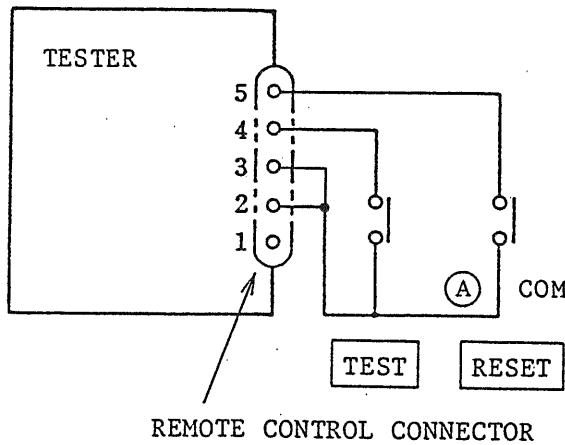

Figure 4.5
- ① Because the instrument can operate by remote control, the pin No.2 and No.3 of connector must be externally connected.
- ② By controlling the TEST and RESET contacts shown in Figure 4.5, the test voltage can be on-off controlled in the same manner as done locally on the instrument front panel.
- ④ Logic elements (transistors, FET's, or photocouplers) may be used instead of the switches in Figure 4.5. The signal status for such operation is shown in Figure 4.7. The input conditions of this instrument for such operation are as follows:
- ⑤ As for the elements to be connected to the Tester, the use of photo-couplers as shown in Figure 4.7 or relays as shown in Figure 4.5 would be advantageous from the viewpoint of preventing erroneous system operations which could be caused by noise. Although the Testers are incorporated with the various provisions to guard it against erroneous operations caused by noise generated by itself or its related devices, it is most recommendable to take full attention to prevent noise when setting up the measuring system.